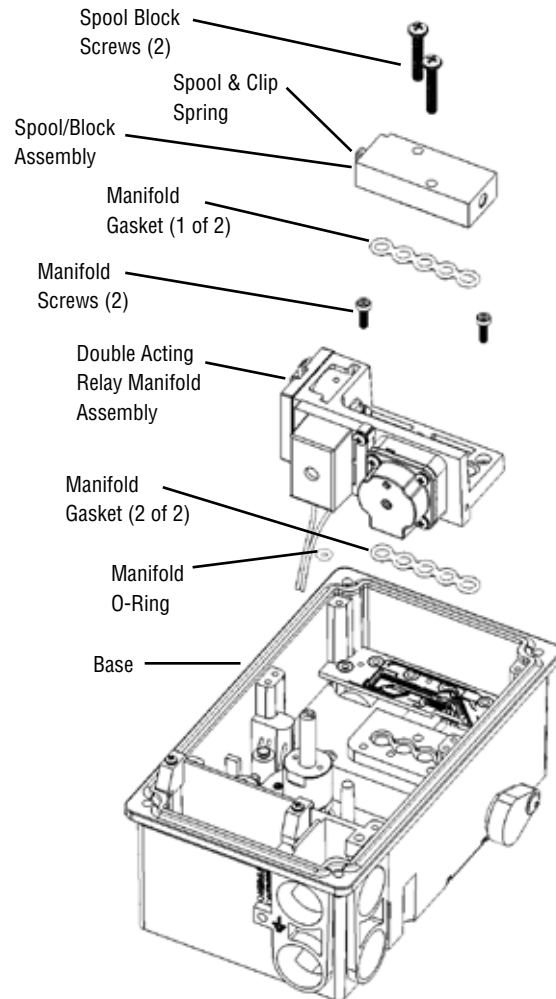

Figure 35: Double Acting Relay Assembly
6. Remove the second manifold gasket and manifold O-ring. See Figure 35: Double Acting Relay Assembly.